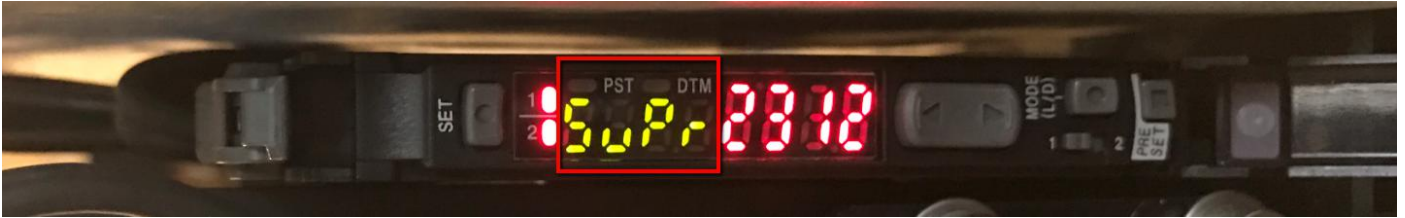

Figure 21 SuPr Mode
4. Press “Up” or “Down” until the “SuPr” mode is selected as shown in the Figure 21.